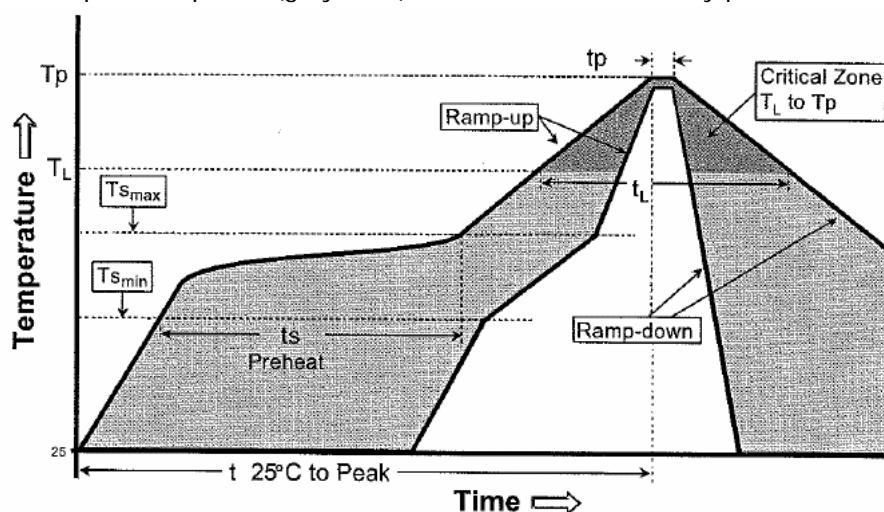

Figure 5 – Temperature profile
2. Perform a reflow process according to the temperature profile detailed in table 3, figure 5 of page 9.